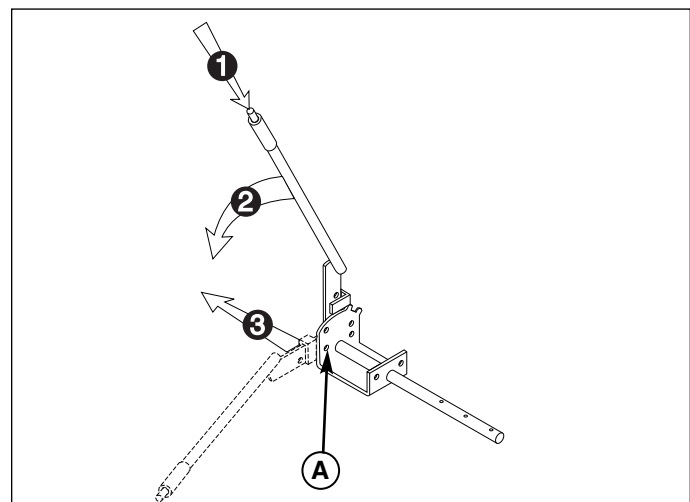

Figure 30. Lift Lever Removal
5. **Manual Lift Models:** See Figure 30. Remove the capscrew from location (A). Depress the lift lever release button and rotate the lever forward until the lever latch clears the mounting bracket. Slide the lever and rod assembly out of the hitch bracket and mounting bracket.